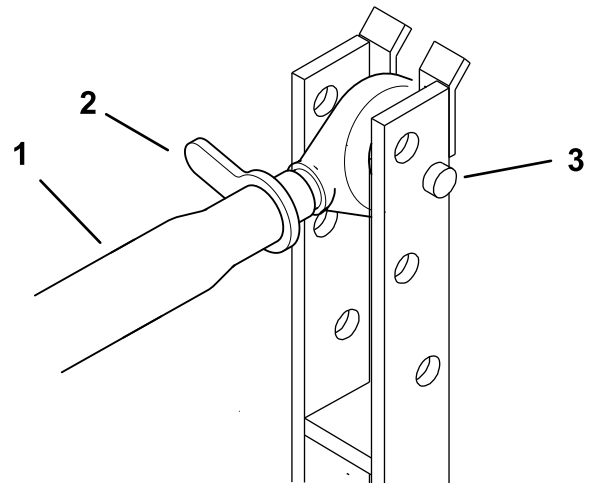

Figure 11
2. Spacer (6)
4. Grease the threaded steel upper link arm tubes (Figure 11).